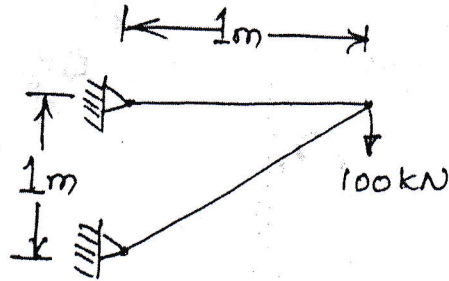

Fig Q6(b)
- b. Determine the nodal displacement and stress in each element for the truss shown in Fig Q6(b), Take  $E = 210\text{GPa}$ ,  $A = 0.01\text{m}^2$ .